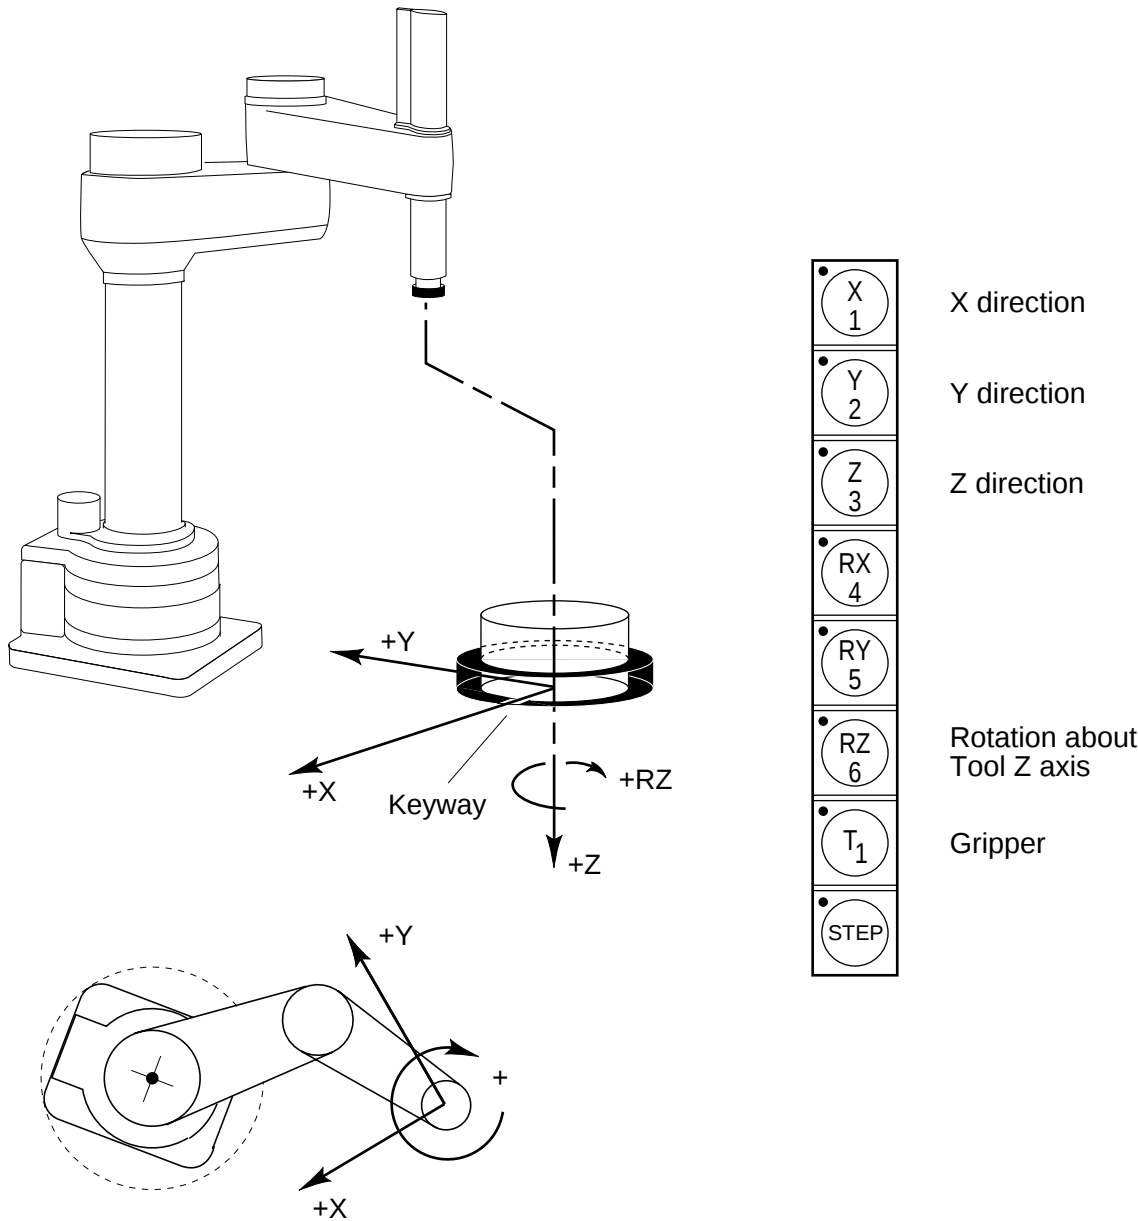
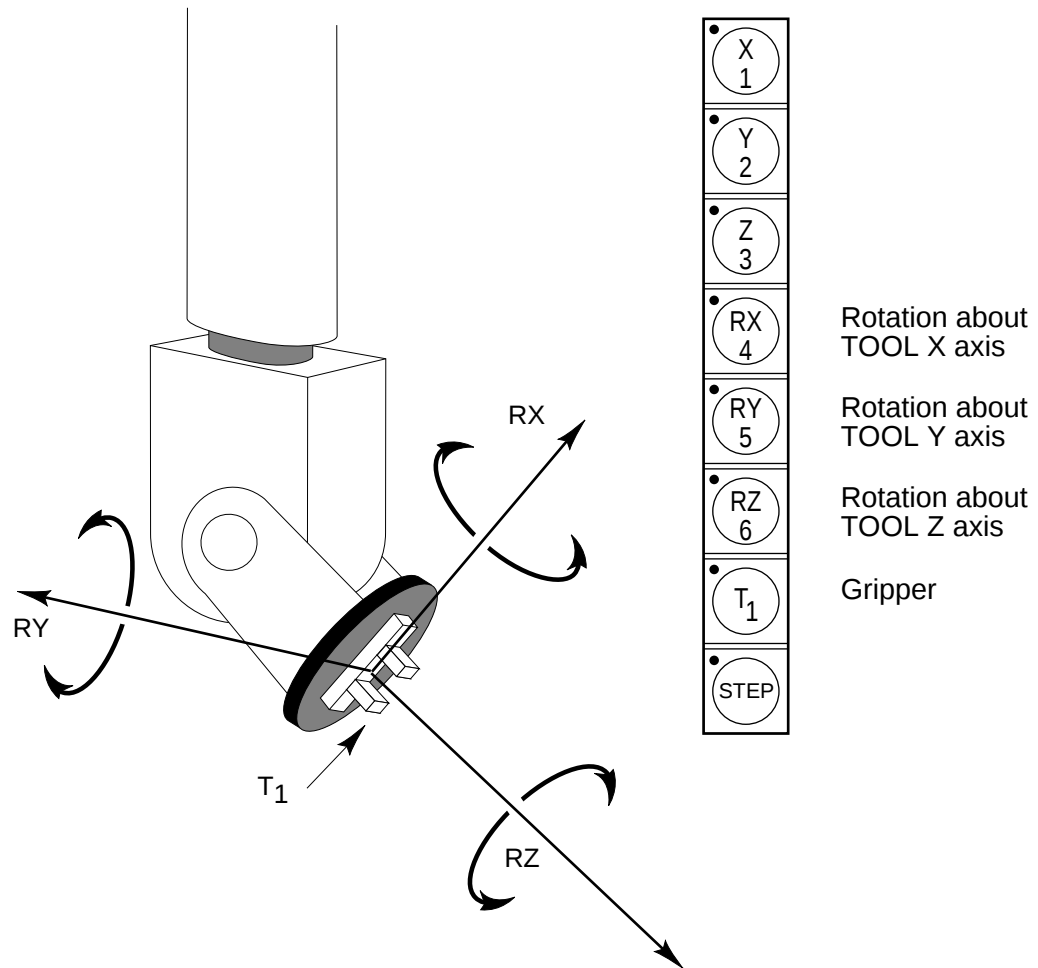

Figure D-14. TOOL State
Figure D-15. TOOL State (Six-Axis Robot)
In a four-axis robot, positive rotation of the gripper (RZ) is clockwise as viewed from above. Figure D-14 shows the tool coordinate system for a four-axis SCARA robot.
Figure D-15 shows the tool coordinate system on a six-axis robot.
NOTE: Figure D-14 and Figure D-15 are drawn with the assumption that the TOOL transformation is set to NULL (all values are 0). If a TOOL transformation is in effect, the tool coordinate system will be offset and rotated by the value of the TOOL transformation. Any motion in tool state will now be relative to the offset coordinate system, and not the center of the tool flange. See the *V⁺ Language Reference Guide* for details on TOOL transformations.